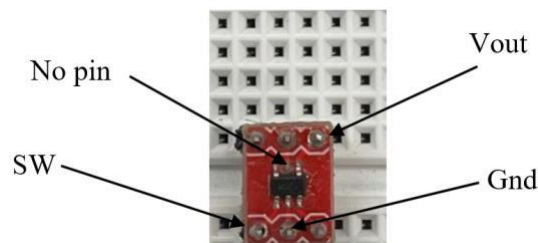

Figure 11a: The orientation of the 3.3V / 5.0V regulators with the breakout board.
- c. You are going to replace the battery shown in Figure 11a with the laboratory supply. Apply 2.9 volts to the input of the regulator using the laboratory power supply, limit the maximum current to 0.5 amps and measure the output of the regulator V_{out} (Record this value) with the LED connected to the output as the load (Record this value).